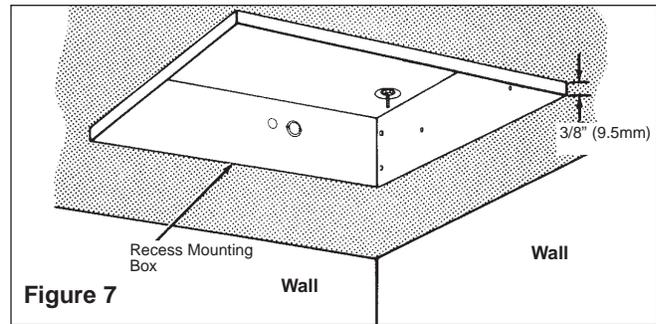

Figure 7
7. Place the recess mounting box in the ceiling opening and align the marks on the sides of the mounting box with the bottom of the finished ceiling (Figure 7). This will position the edge of the mounting box 3/8" (9.5mm) below the ceiling and will allow the recess face plate to